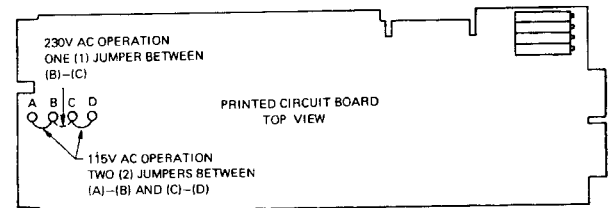

FIG. 2-3 CONVERSION TO 230 V AC LINE OPERATION
- 2-5 PCX and PCX—MAT power supplies are normally delivered for operation on a single phase, 105 to 125 V AC source, 50 to 65 Hz. For operation on 210 to 225 V sources, the jumper connections on the main transformer (T201) must be changed as shown in FIG. 2-3